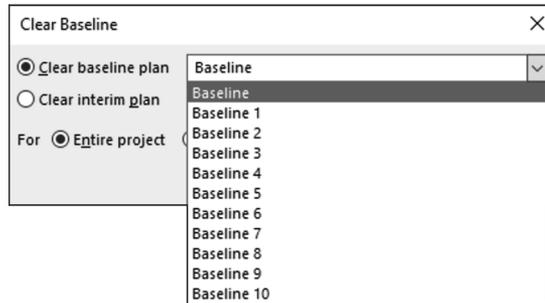

FIGURE 14-3:
- 3. From the Clear Baseline Plan drop-down list, choose a baseline to clear, as shown in Figure 14-3.**